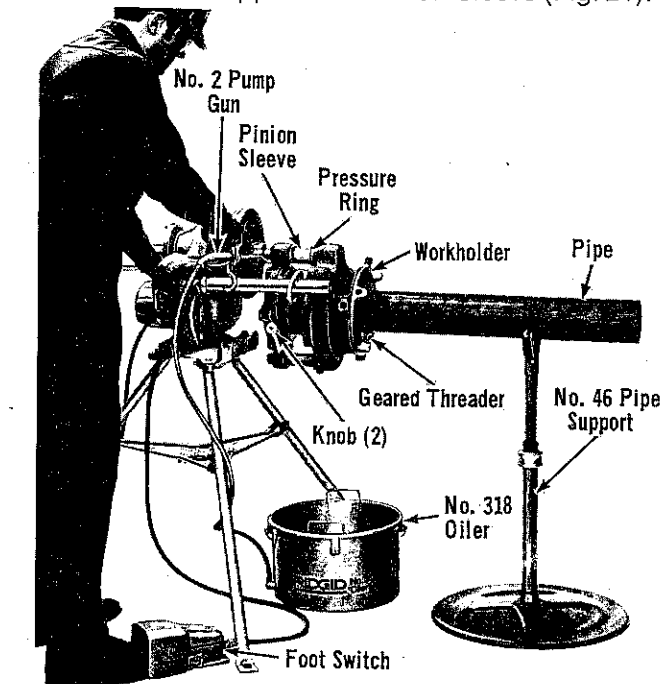

Figure 18. Threading Pipe with No. 141 Geared Threader (Close-Coupled Method) (Nos. 161 and 4PJ Threaders Similar).
9. Position No. 318 Oiler directly under Threader (Fig. 18).
10. Support long pieces of pipe with No. 46 Pipe Support (Fig. 18). Position approximately 2 1/2 feet from Threader.
5. Flood Dies (Fig. 18) with RIDGID Thread Cutting Oil during threading operation to assure long Die life.
6. **4PJ only** - Release Foot Switch just before Die Head begins to press on Pressure Ring (Fig. 18) at base of Pinion Sleeve.
141 and 161 - Step on Foot Switch and reverse Threader one or two revolutions. Pull knobs (Fig. 18) and rotate Cam Plate as far as it will go towards CD mark on Head to disengage Dies.